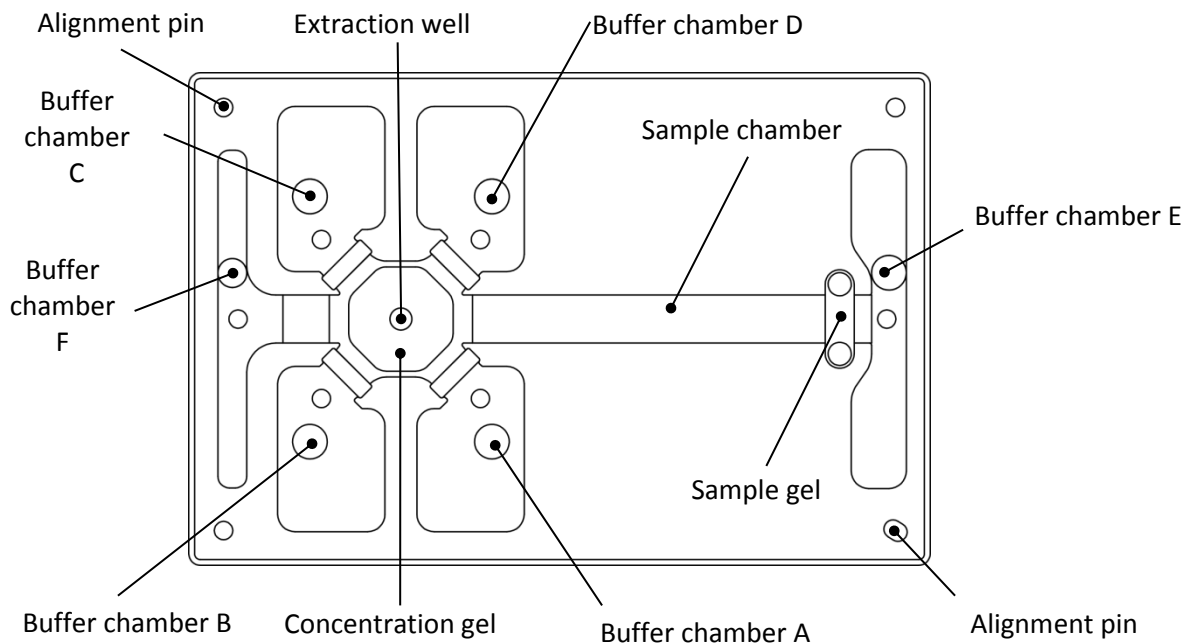

Figure 1: Top view of the cartridge
- Add 5 ml of buffer to each of the buffer chambers: A, B, C, D, and E, and then add 4 ml of buffer to buffer chamber F (see Figure 1).
Bring the volume of the sample you prepared earlier up to 5 ml with nuclease-free water. Transfer the entire 5 ml sample into the empty sample chamber (see Figure 1). Close the cartridge drawer.